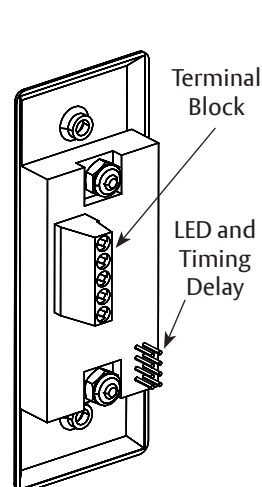

Figure 4
2. Use small flat head screwdriver to connect 24VDC and activation wiring with terminal block. (Fig 4) See "Wiring", page 2 and appropriate wiring diagram of door operator instructions.